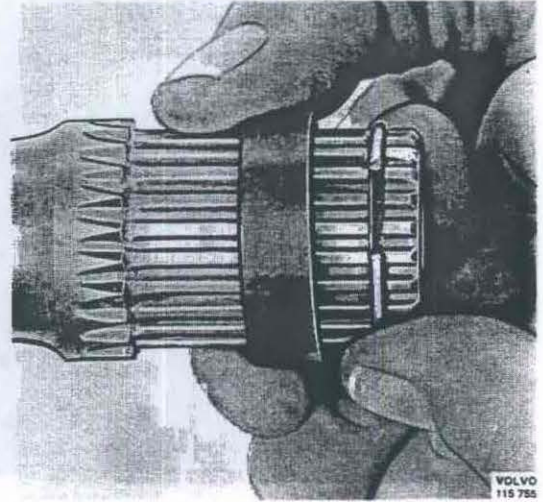

Fig. 46-84. Placing the spacer ring
4. Replace the circlip on the drive shaft and push the spacer ring over the circlip, Fig. 46-84. Grease the circlip and splines.